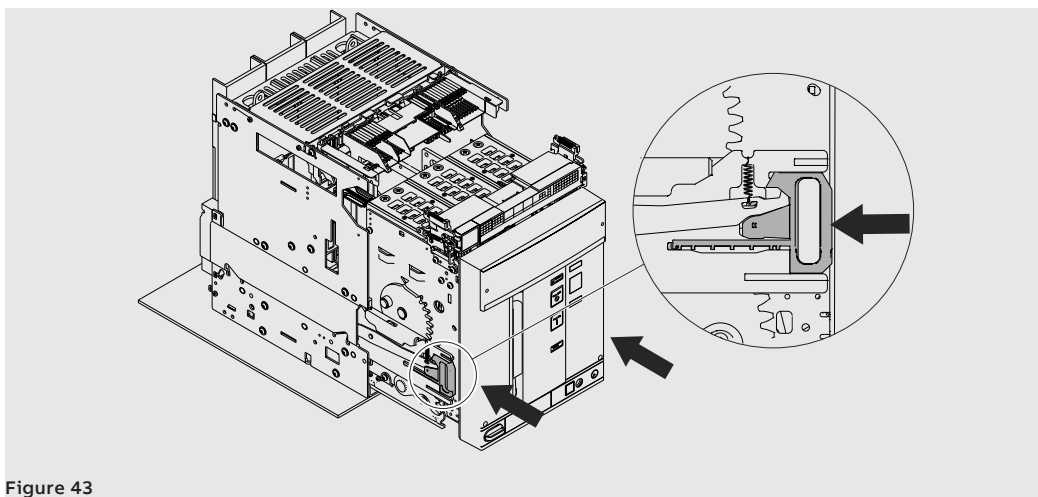

Figure 43
- 7. Grip the guide levers of the fixed part and push them until the moving part stops. See Figure 43.